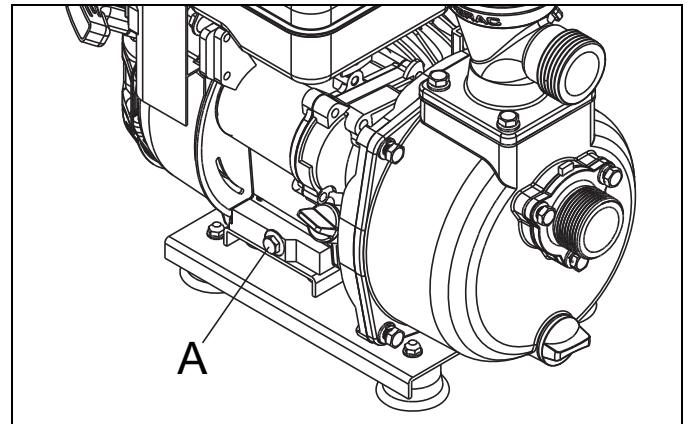
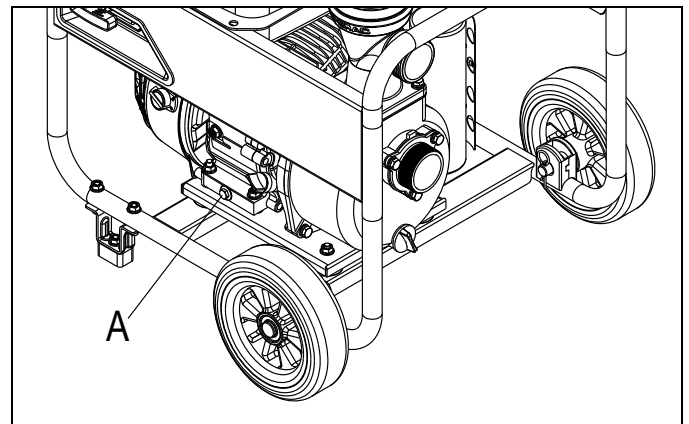

Figure 6-3. CW15 Oil Drain Plug
Figure 6-4. ST20 Oil Drain Plug
3. Clean area around oil drain plug (A) (Figure 6-3) and (Figure 6-4). The oil drain plug is located at base of engine.